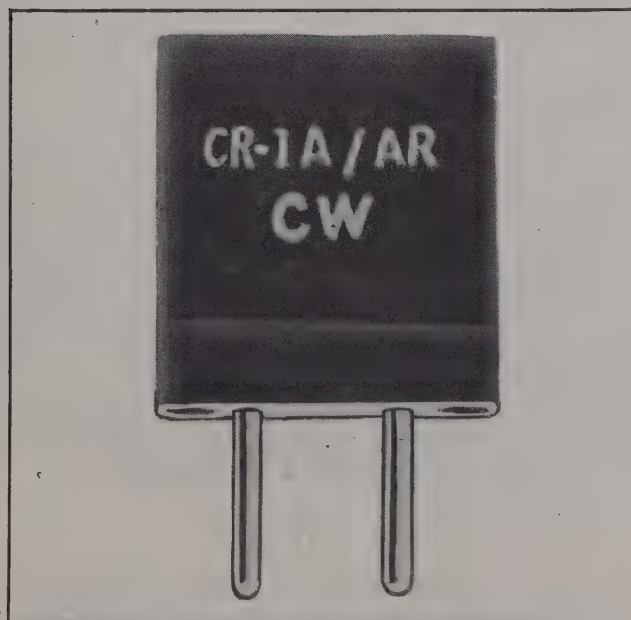

Figure 1-15. Crystal Unit CR-1A/AR
n. CRYSTAL UNIT CR-1A/AR.—These crystal units consist of a thin quartz plate ground to certain very accurate dimensions to control the frequency of the radio transmitter and radio receiver. They are mounted in a bakelite holder provided with plug terminals. (See fig. 1-15.)